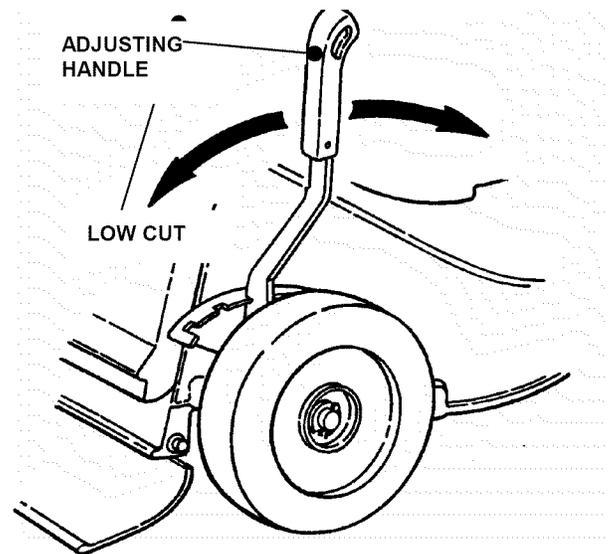

FIGURE 2.6
1. Pull the cutting height adjusting handle outward and move to desired cutting height. See Figure 2.6. TO STOP